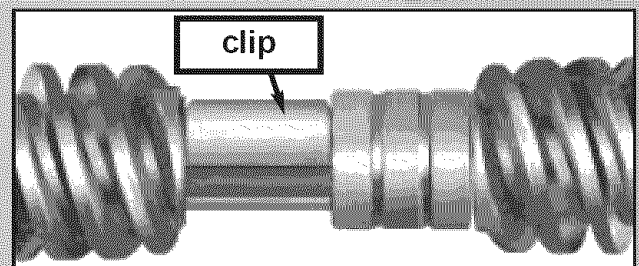

Fig. 1-11
- Snap a clip [12] onto screw behind collar to hold collar in place. **Fig. 1-11.**